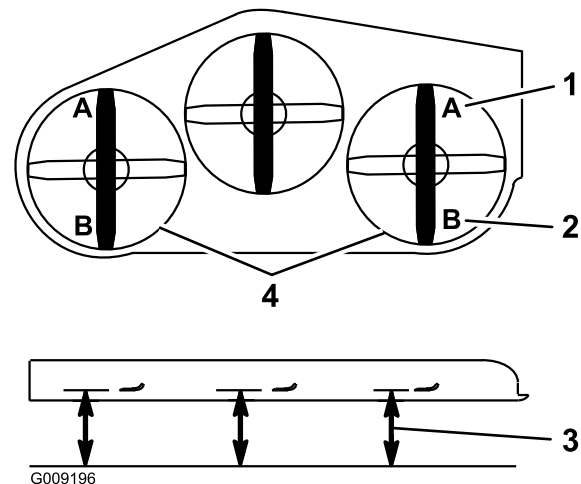

Figure 94
9. On both sides of the deck, measure from the level surface to the front tip of the blade (Position A). The measurement should read 3 inches (7.6 mm) (Figure 94).
15. On both sides of the deck, measure from the level surface to the back tip of the blade (Position B). The measurement should read 3 1/4 inches (8.3 cm) (Figure 94).